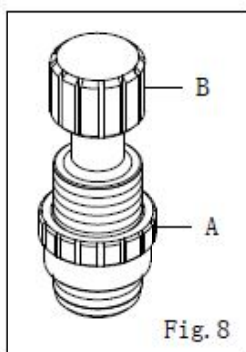

Fig. 8
2. 松开螺母(A)，转动螺丝(B)，调整其适当压力后再锁紧螺母(A)。(图8)
2. To increase the pressure of Presser Foot, to turn Adjusting Screw (B) clockwise after loosening Lock Nut (A) and to decrease the pressure turn Screw (B) counterclockwise. (Fig. 8)